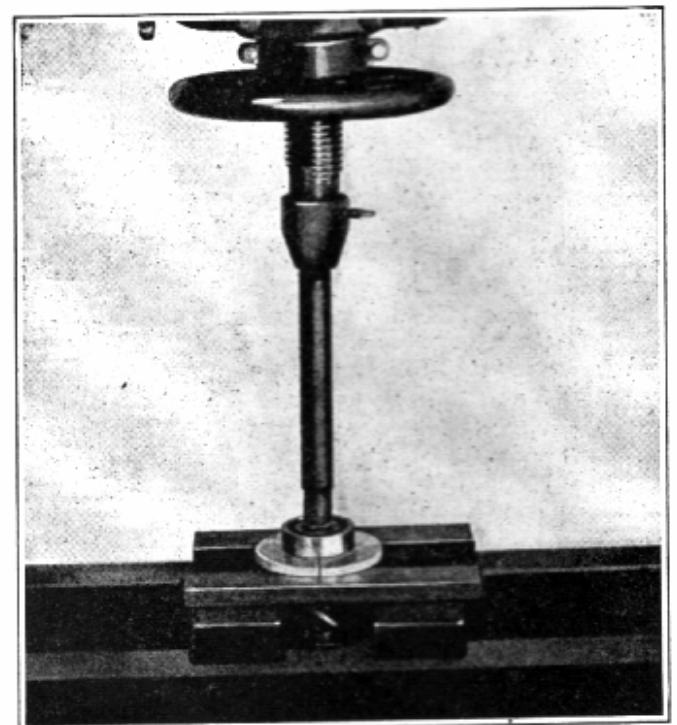

Fig. 8—Removing Straddle Mounted Pinion Bearing
2. To remove the straddle mounted pinion bearing, take off the lock ring and then using a press plate, press the pinion and shaft out of the bearing, Fig. 8.